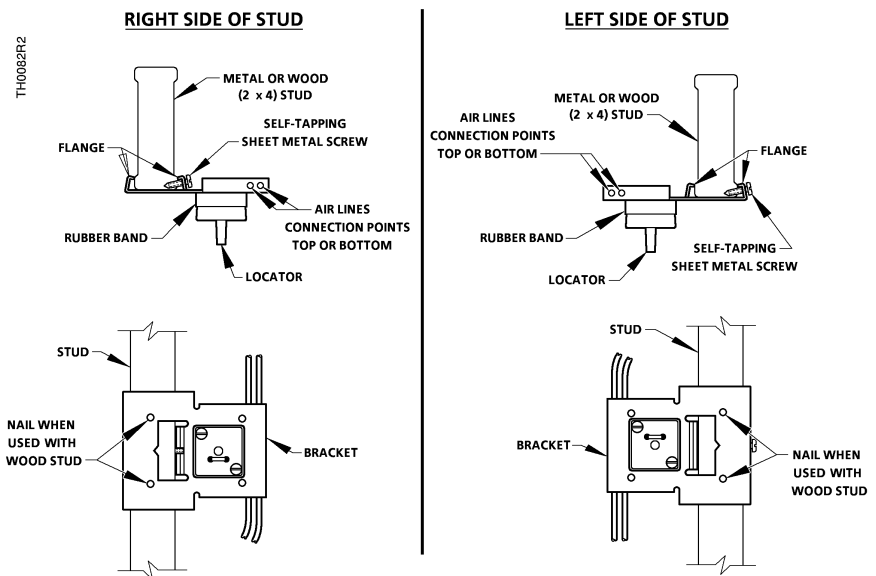

Figure 11. Drywall Mounting Bracket Positions.
This kit was designed to be used on metal studs (metal 2 x 4s), but it can also be used on conventional wooden 2 x 4s. The quick mounting bracket (D), provided with this kit permits it to be fastened securely to the stud with a single, self-tapping sheet metal screw. As shown in *Figure 11*, the bracket can be mounted on either side of the stud. Ideally, the self-tapping screw should always be driven through the appropriate flange on the bracket so that the screw point bears against or pierces the solid (as opposed to open) side of the stud. However, if the situation requires it, the screw could be driven through the opposite flange and into the lip on the open side of the stud.